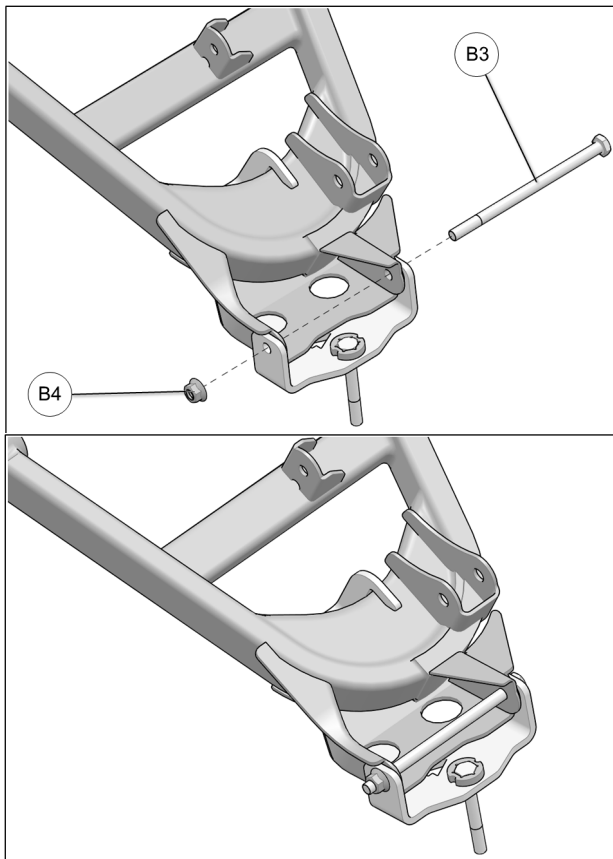

Fig. 9
8. Slide M10x170 mm assembly bolt (B3) through bracket, a-arm and hub. Thread nut (B4) on bolt and tighten bolt to 50 N•m of torque [37 lb•ft]. See Fig. 9